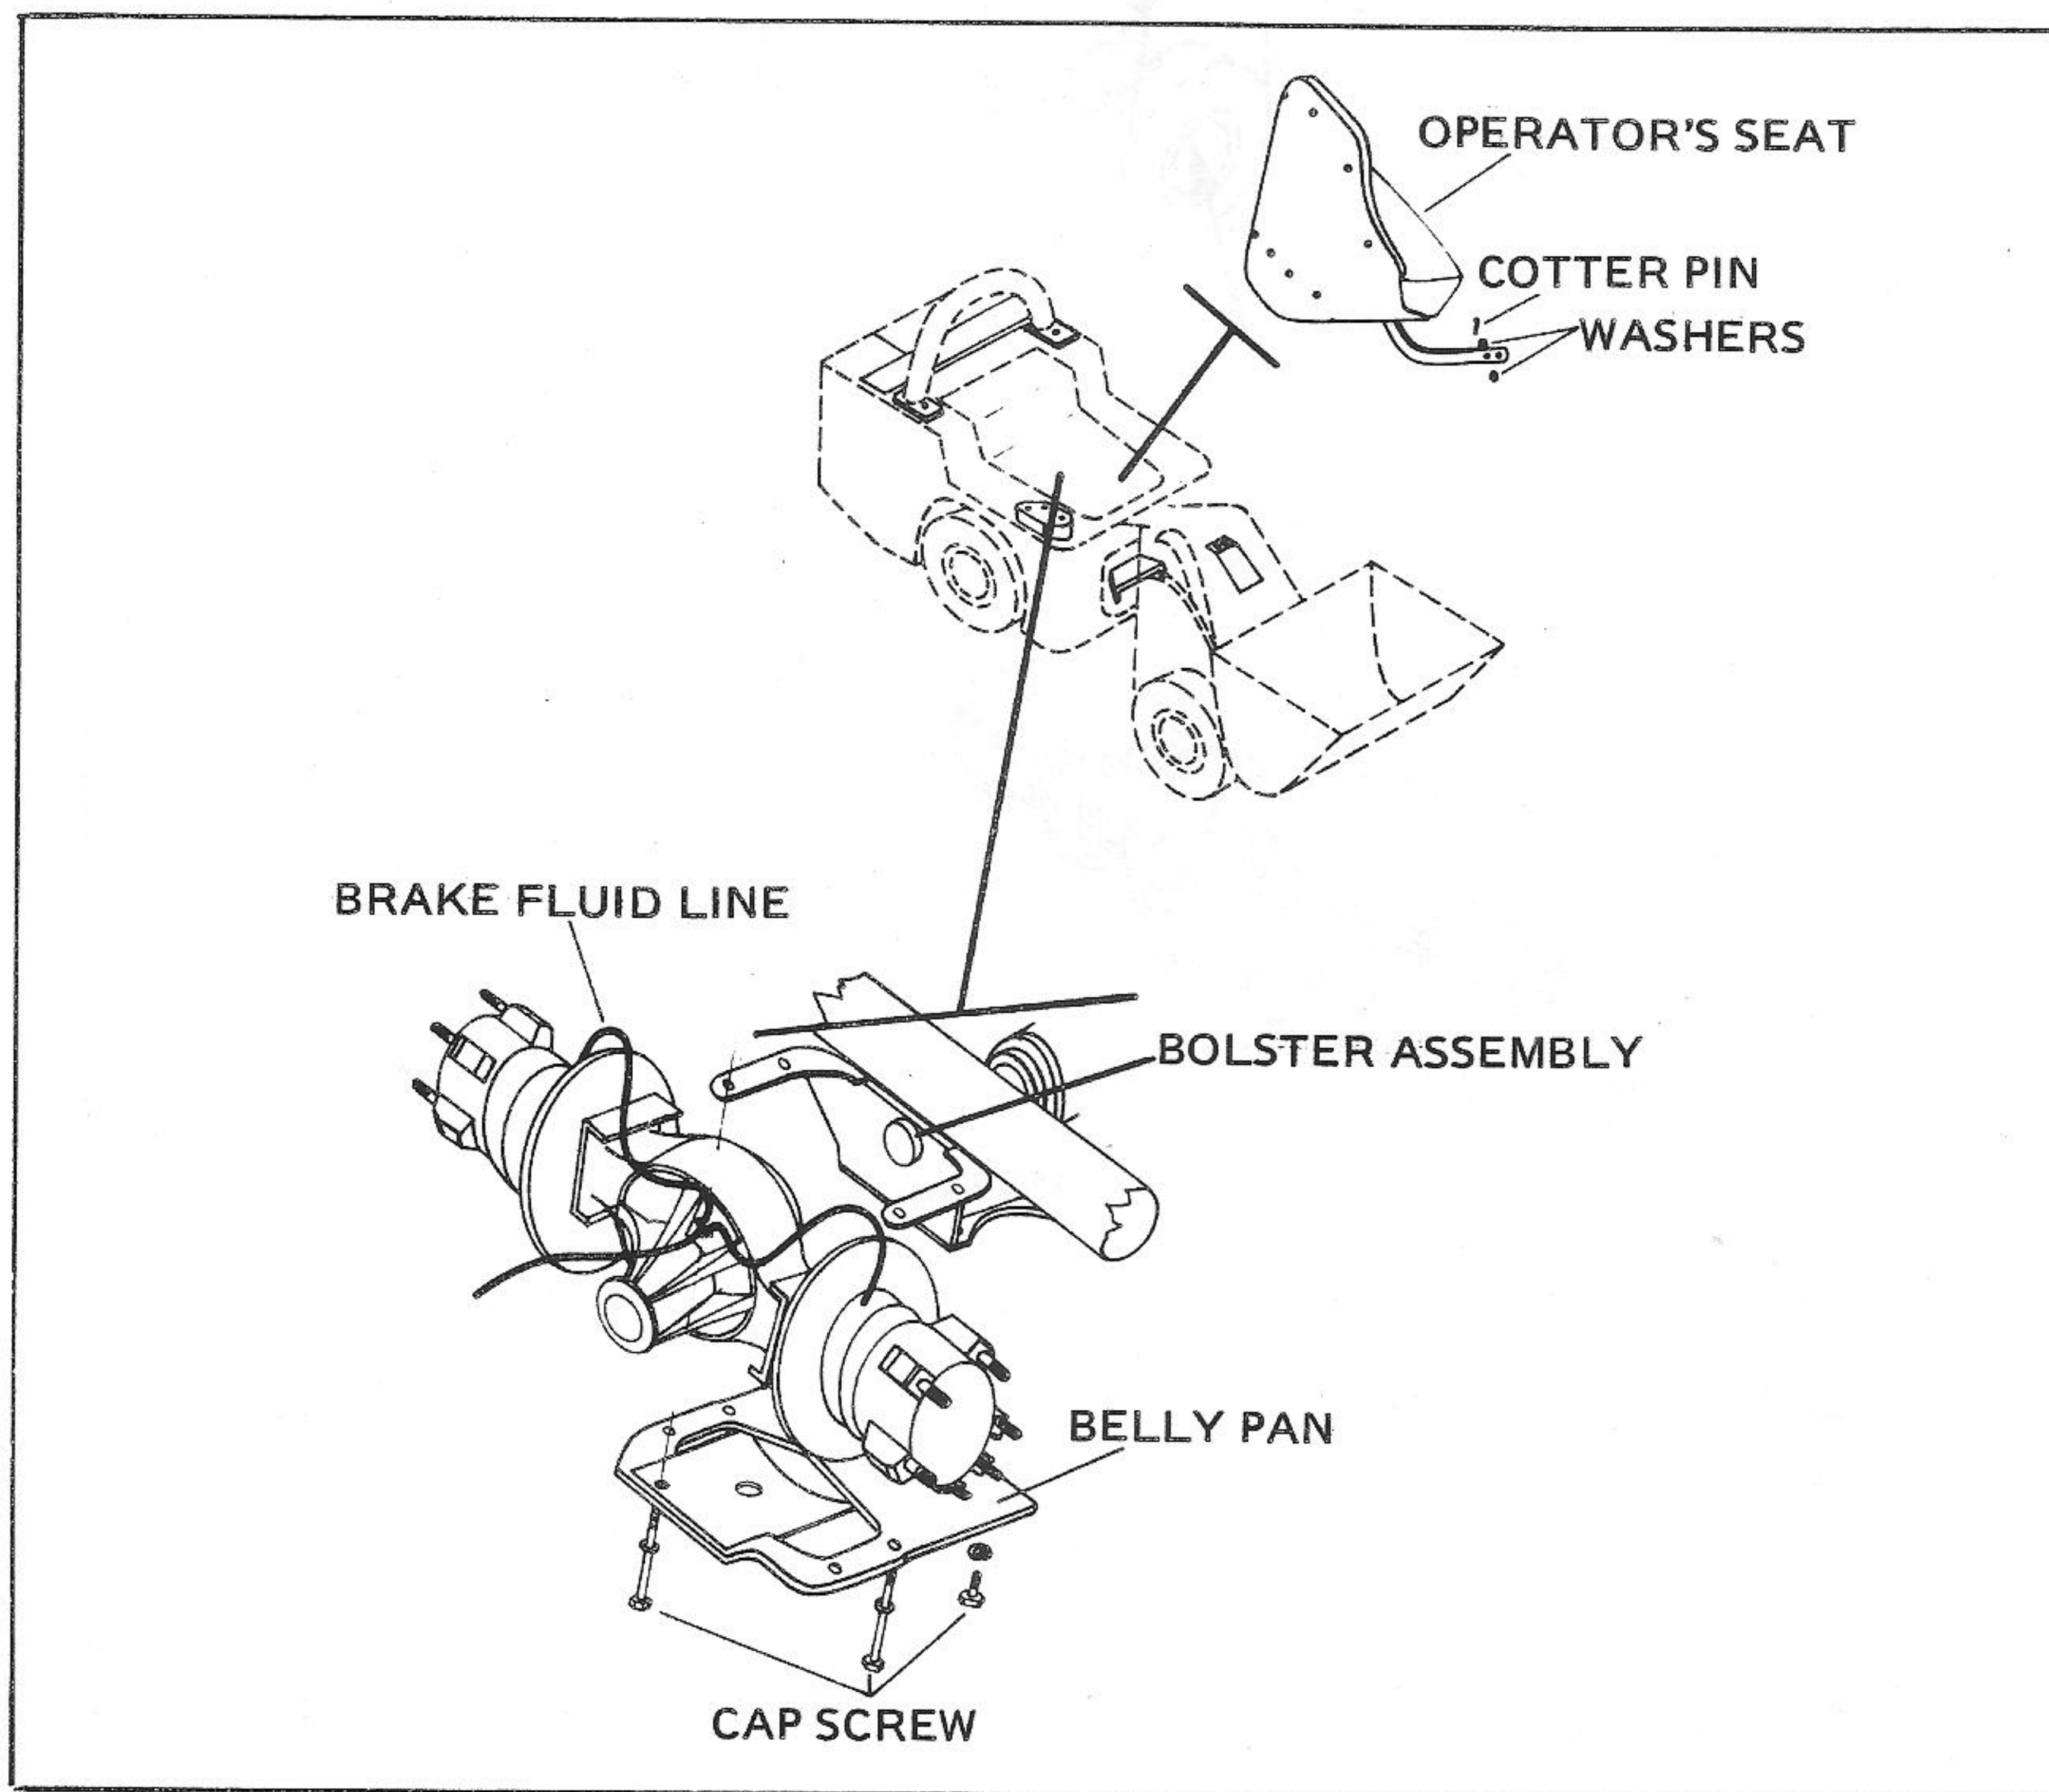

FIGURE 5-3. REAR AXLE INSTALLATION
- (1) Support the axle with the floor jack under the differential housing.
- (2) Push the axle into position under the machine.
- (3) Raise the axle with the floor jack until the axle mounting pads are in contact with the mounting pads on the machine.
- (4) Secure the axle to the machine with the four mounting bolts. Tighten the bolts to 420 foot-pounds (570 Nm).
- (5) Position the belly pan for installation and attach to the machine with the four cap screws.
- (6) Mount the wheels, raise the floor jack until the frame supports can be removed, then lower the machine to the floor.
- (7) Reconnect the motor case drain line, motor control pressure line, two pilot lines and two high pressure lines to the transmission motor.
- (8) Connect the brake fluid lines. Bleed the brakes to remove air (refer to Section 6). Refill the master cylinder.
- (9) Connect the driveline to the transfer case.
D. Rear Axle Removal (See Figure 5-3)
- (1) Park the machine in a straight line.
- (2) Raise the motor end of the machine high enough to remove the rear wheels. Support the machine in this position.
- (3) Remove both rear wheels from the machine.
- (4) Verify that the hydraulic system pressure is depleted by removing the hydraulic tank cap.
- (5) Remove the two cotter pins that secure the operator's seat to the machine structure and remove the seat.
- (6) Partially support the rear axle with an overhead crane.
- (7) Disconnect, tag and cap the brake fluid lines.
- (8) Disconnect the driveline at the rear axle.
- (9) Remove the four belly pan cap screws and the four rear axle mounting cap screws. Remove the belly pan from the machine.
- (10) Lower the rear axle with the overhead crane and remove the axle from the machine.
F. Rear Axle Installation (See Figure 5-3)
- (1) Push the axle into position under the machine for installation.
- (2) With an overhead crane, raise the axle until the axle mounting pads are in contact with the mounting pads on the machine.
- (3) Slide the belly pan under the differential housing. Mate the belly pan to the machine and align the mounting bolts.
- (4) Install the four axle mounting cap screws. Do not tighten the cap screws at this time.
- (5) Install the four belly pan cap screws and tighten the cap screws. Tighten the four axle mounting cap screws previously installed to 420 foot-pounds (570 Nm).
- (6) Connect the driveline to the rear differential.
- (7) Connect the brake fluid lines. Bleed the brakes to remove air (refer to Section 6). Refill the master cylinder.
- (8) Mount the wheels and lower the machine to the floor.
- (9) Position the operator's seat to the operator's requirements and install the seat.